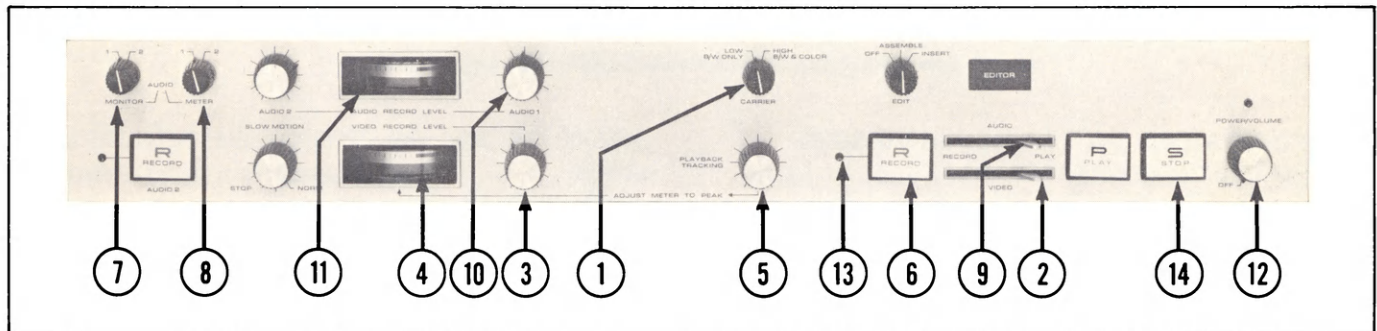

Figure 9 Recording Video (and Audio) From CC450 Camera Operation
5. Place the Carrier selector (item 1, figure 9) in the position that will correspond to the carrier frequency of the unit that is to be used to play back the tape.
6. Place the Video Record/Play Lever (item 2, figure 9) in the left-hand (RECORD) position.
7. Adjust the Video Record Level control (item 3, figure 9) for a 100% indication (during peak white scenes) on the Video Record Level meter (item 4, figure 9).
8. Rotate the Playback Tracking control (item 5, figure 9) to the SET position. DO NOT rotate or attempt to adjust it
- b. Set the Audio Monitor and Meter selectors (item 7 and 8, figure 9) to their "1" position.
- c. Place the Audio Record/Play Lever (item 9, figure 9) in the left-hand (RECORD) position.
- d. Adjust the Audio 1 Record Level control (item 10, figure 9) for a 100% indication (during peak sound levels)
on the Audio Record Level meter (item 11, figure 9). The Power/Volume control (item 12, figure 9) can be turned up to monitor the audio 1 input from the internal speaker while adjusting; and during the subsequent recording.
10. At this point the actual RECORD mode and tape movement can be initiated by depressing the Main Record button (item 6, figure 9) on the VPR5800 (for local RECORD control); or depress the Record button on the control panel of the CC450 camera (for remote RECORD control). The red Record Indicator (item 13, figure 9) will light at this point.
11. To terminate the recording, depress the Stop button (item 14, figure 9) on the VPR5800 front panel; or depress the Stop button on the control panel of the CC450 camera. To begin the RECORD mode again, repeat step 10.